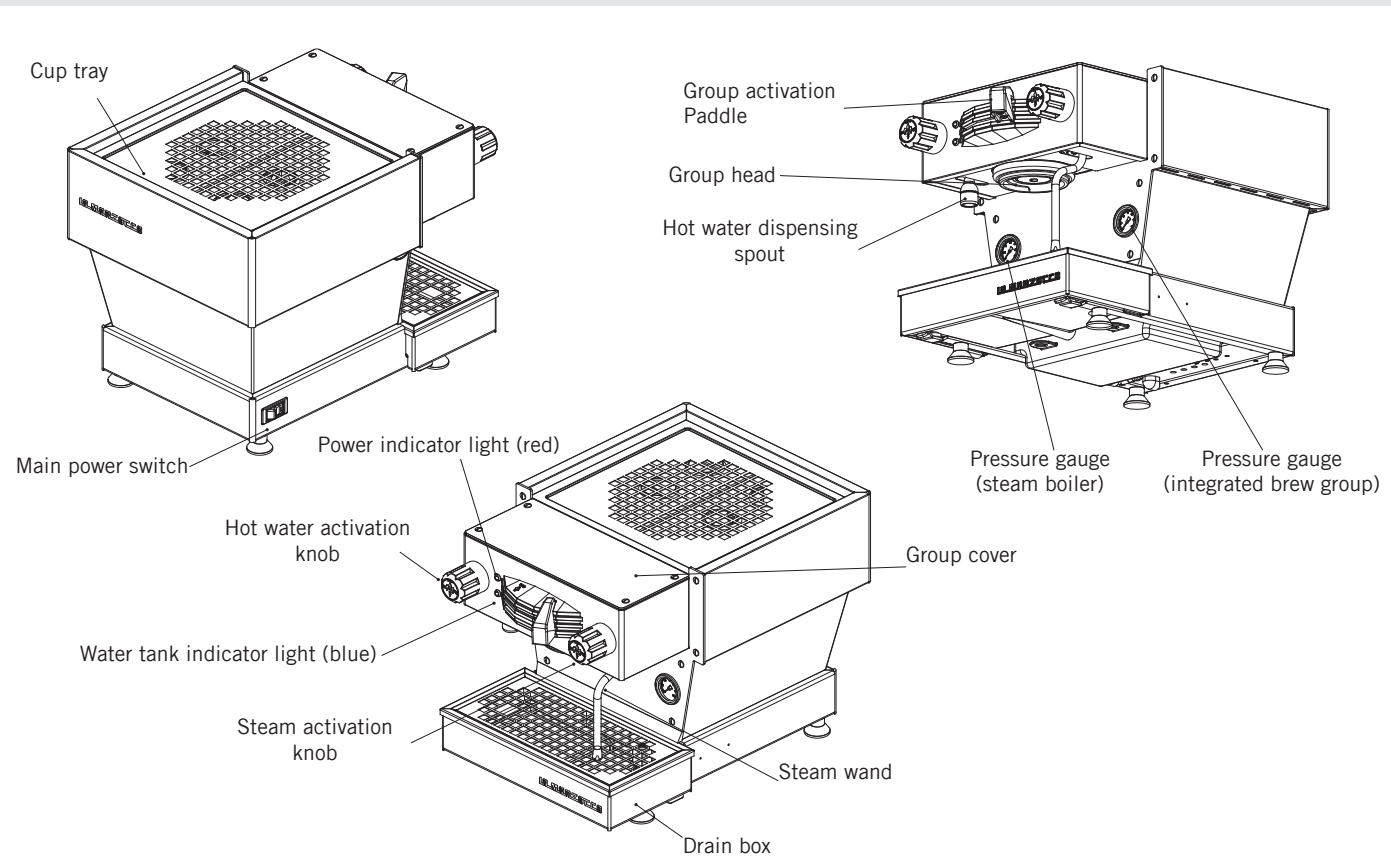

Figure 1 - Machine Description
2. Brewing coffee. It is now possible to remove the portafilter to make a coffee beverage. Place some ground coffee in the portafilter basket using the single or double basket. Press down on the ground coffee with the supplied tamper and install the portafilter on the linea mini. Move the paddle handle from right to left to begin brewing (see Fig.1 page 8).
You may dispense hot water by using the hot water nozzle. To dispense hot water rotate the left knob (see Fig.1 page 8).
Hot water may be dispensed from the Hot Water Wand on the left side side of the machine. This is accomplished by rotating the left knob (see Fig.1 page 8).